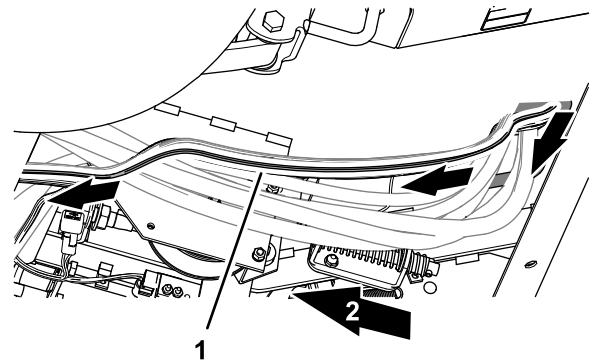

**Figure 172**
1. Route the other end of the ISO-CAN bus harness through the grommet of the floor (Figure 172).